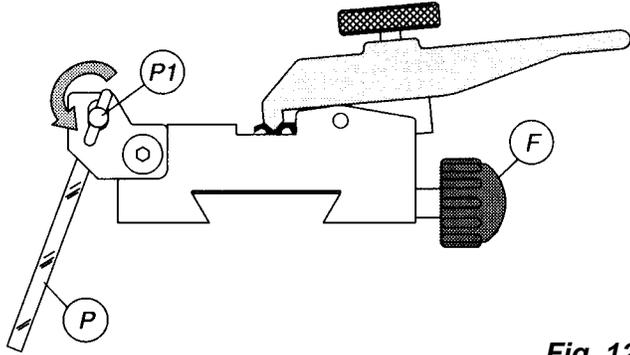

Fig. 12
Place the clamp in the tracking position (Fig 9) to make it easier to position the key in the clamp. Make sure the glass slide diffuser (P) is out of the way by rotating it outward with knob (P1) (Fig 12).